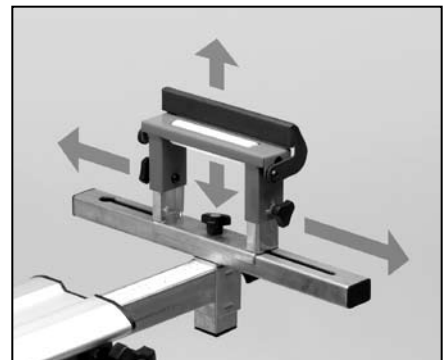

Figure 8
11. The roller supports can be adjusted up or down by loosening height adjustment knob **2** and adjusting up or down as desired and tightening height adjustment knob. Figure 8. Also “T” support can be adjusted up or down by loosening “T” adjustment knob **3**, moving the “T” up or down, and tightening.
12. The roller supports can be adjusted front to back by loosening knob **4** and sliding to desired location and tightening knob. Figure 8